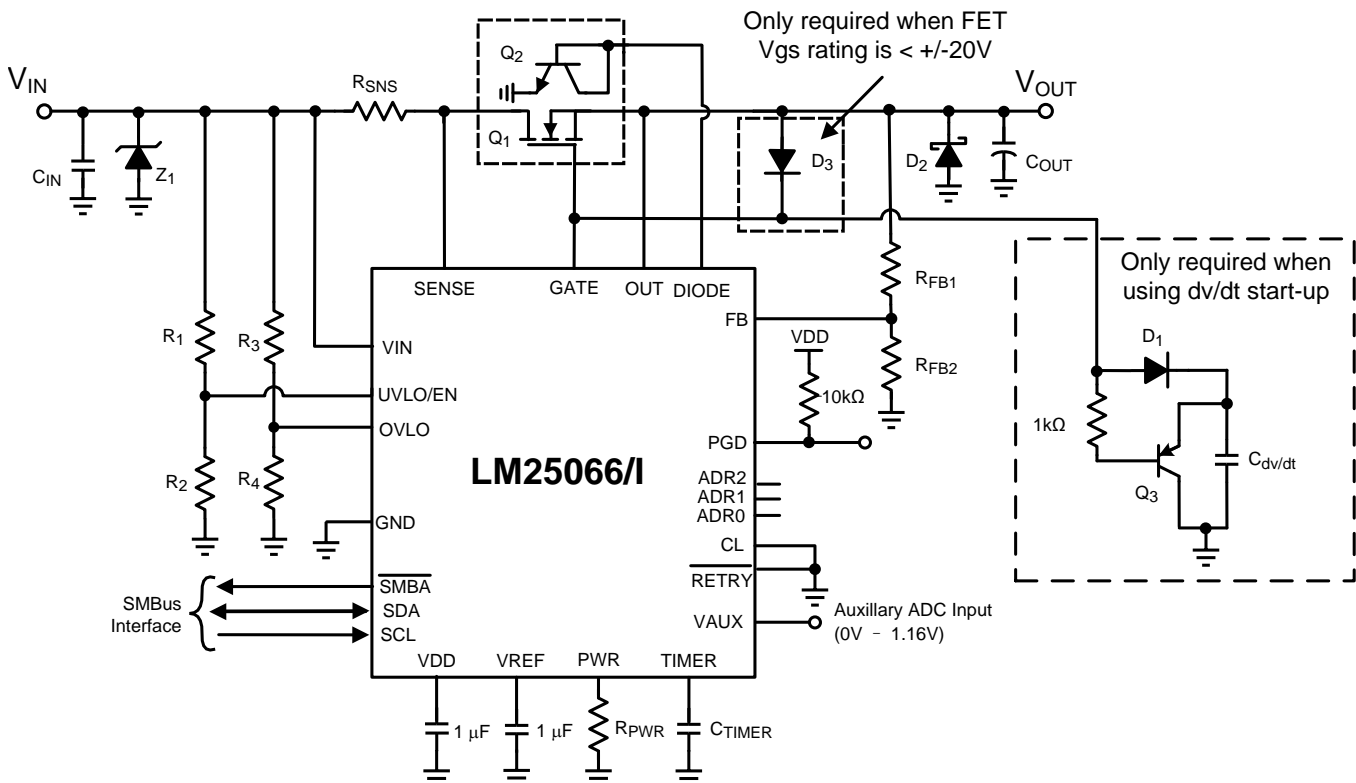

Figure 38. Typical Application Circuit
- Otherwise, a diode (D3 in Figure 38) can be used to protect MOSFETs with a ± 12 V  $V_{GS}$  rating.